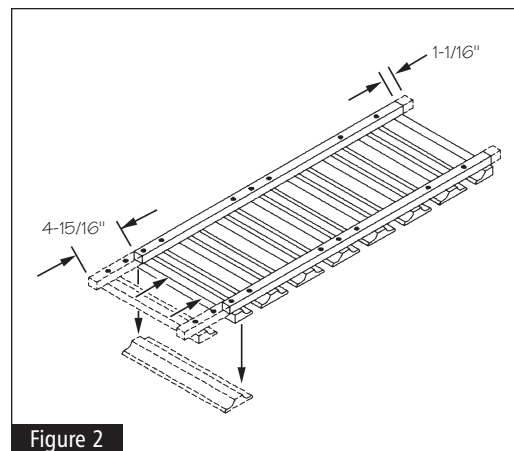

Figure 2
- 1** Place Stem Glass Holder unit on flat surface with the mounting strips facing up. Using the screwdriver, remove the first two rails and replace the first (smaller) rail where the second rail was. With pencil, mark each end of both mounting strips. See Figure 2.